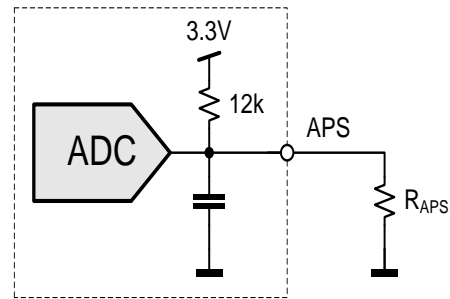

Figure 35. I2C address and protocol setting
1) E12 resistor values, use max 5% resistors, see also Figure 35.